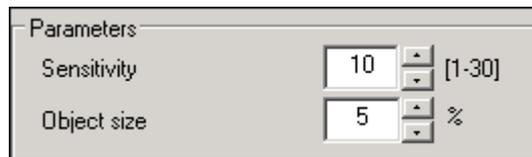

Fig. 35 Motion detection parameters in the SISTORE MX NVS *Motion detection* dialog
1. Enter the sensitivity level in the **Sensitivity** text field (see "Fig. 35", page 47).